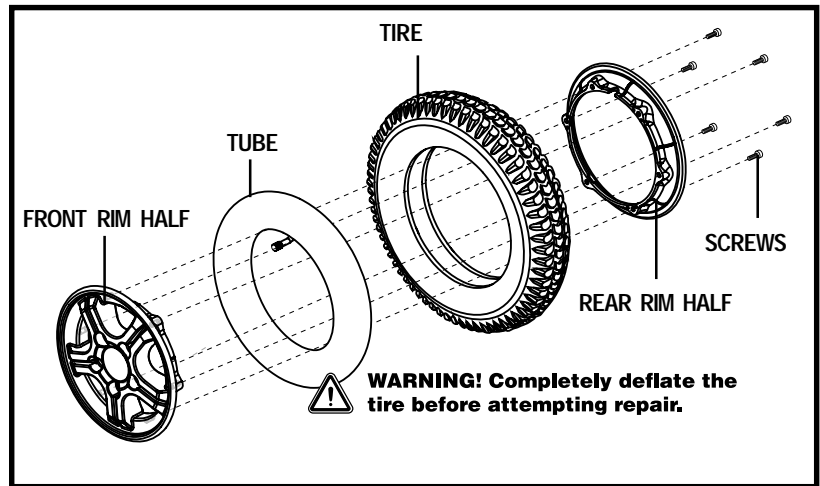

Figure 28. Quantum 6000Z Series Drive Wheel Disassembled
6. Remove the screws and separate the front and rear rim. See figure 28.
10. Reinstall the five (5) lug nuts onto the wheel hub and tighten.